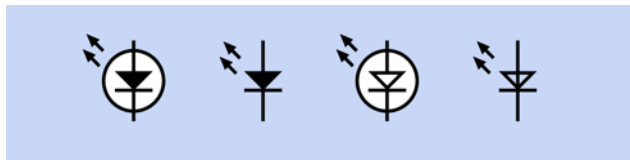

Figure 2-47 Four ways of representing an LED. They are functionally identical.
6. Light-Emitting Diode (LED). Figure 2-47 shows four variants of a symbol representing an LED. The meaning is the same, regardless of whether a circle is included, and regardless of whether the triangle is solid or open. The white highlight in the circle is added in this book for clarity, but is not used elsewhere. LED symbols may be oriented in any direction, for convenience in drawing a circuit. Arrows also may point in any direction.